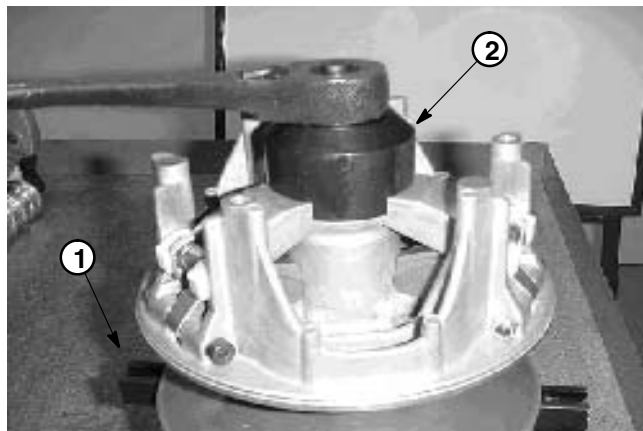

Figure 11
3. Use two 1/4-20 X 1" cap screws to secure the spider removal holding bar (TOR4098: see Special Tools) to drive clutch (Fig. 11).
6. Using spider removal spanner tool (TOR4098: see Special Tools), remove spider from the fixed sheave post (Fig. 11).